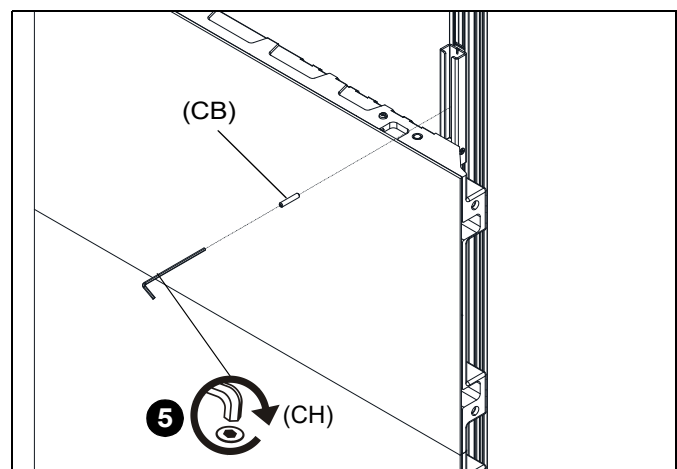

Figure 27
5. Install #10-24 x 1" set screws (CB) into the highest H-block in each column using 3/32" hex key (CH). (See Figure 27)